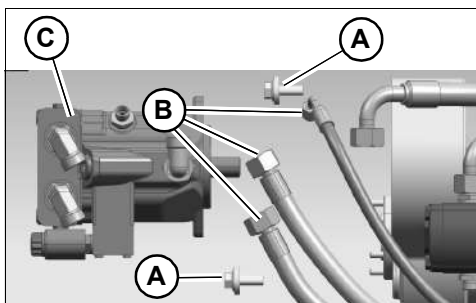

Figure 59 – Hydraulic Motor Removal (AL 300 Series)
2. Disconnect hoses (B) and the electrical connector from the motor. Cap the ends of the hoses to prevent hydraulic fluid loss.
3. Remove bolts (A, Fig. 59) securing drive motor (C).